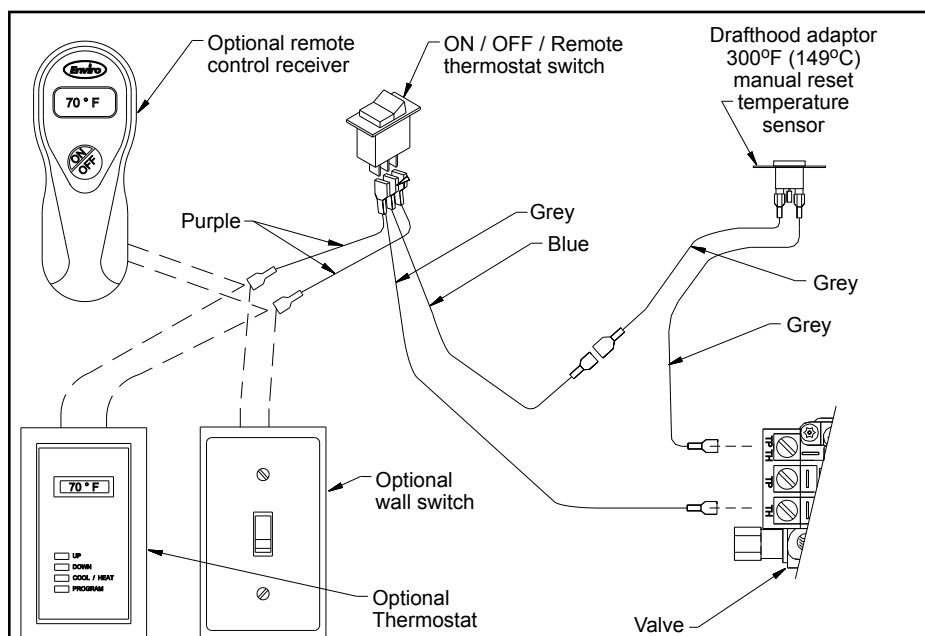

Figure 23: Wiring Diagram for Electrical Connection.
Being careful not to run any wiring tight across metal edges; connect them to the valve and "ON/OFF" switch (refer to Figure 23).
The fireplace connections are labelled in Figure 23. When installing the Draft Hood Adaptor onto a fireplace fitted with an optional wall switch or an optional thermostat, remove one wire from the switch to the gas valve and connect the Draft Hood Adaptor harness as shown in Figure 30.
2. Disconnect the spill switch wires from the valve and on/off/remote rocker switch wire (see Figure 23).